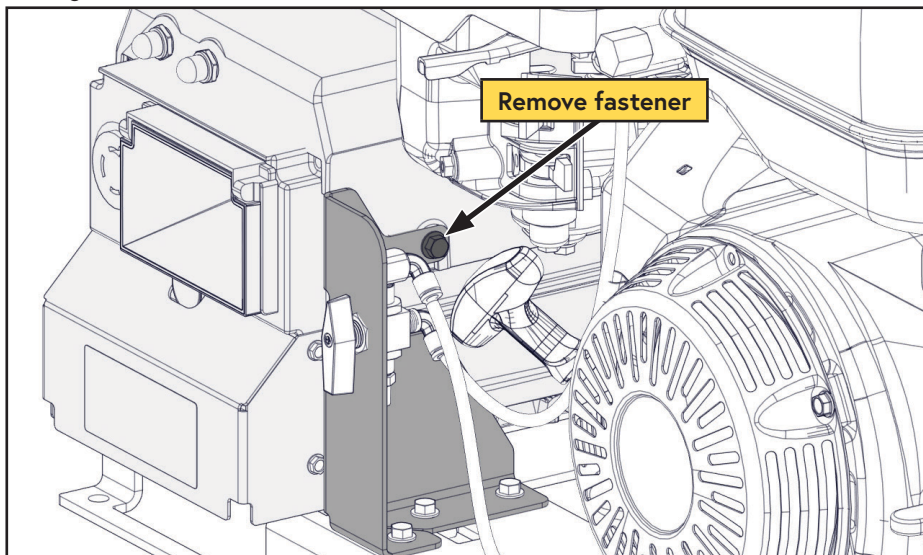

Figure 80 — Remove throttle switch mount bracket fastener
- Remove the upper fastener from the throttle switch mounting bracket (Figure 80).